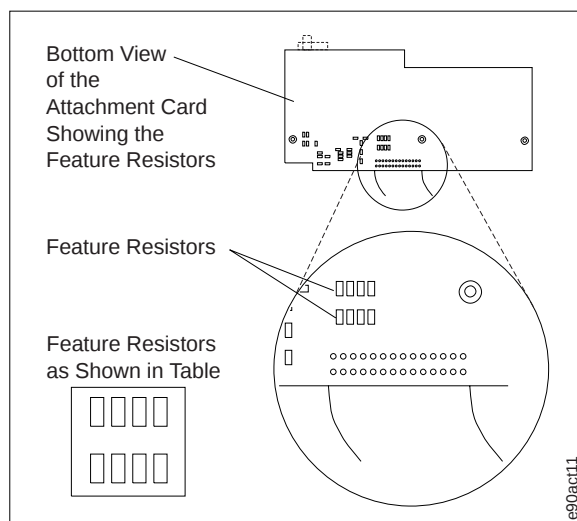
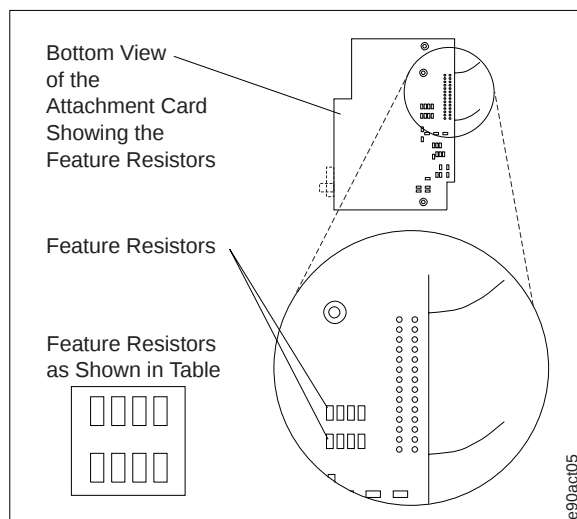
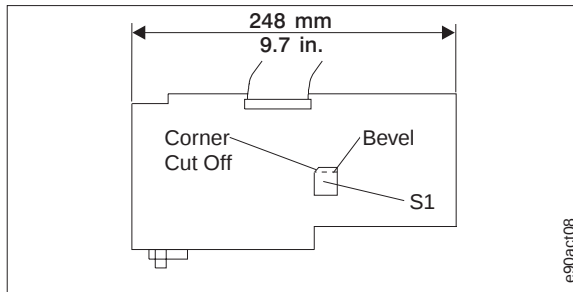

Figure 2. Models 001 and 002, attachment card Feature Resistors [Level 1 (Long) Card]
Figure 3. Models 001 and 002, attachment card Feature Resistors [Level 2 (Short) Card]
Figure 4. Models 001 and 002, Placement of S1 Microcode Module - Long Card. The length of this attachment card is approximately 248 mm (9.7 in.).
Figure 2 and Figure 3 on page 52 show you how to use the feature resistors to identify the attachment card (Models 001, 002). Use the figure that matches your attachment card.
Figure 4 on page 53 shows the location and orientation of the attachment card microcode module (S1) on the Level 1 (long) attachment card.
Use Figure 2 on page 51, Figure 4, and Figure 7 on page 55 to verify that the:
- S1 module is installed in the correct orientation. The dotted line depicted on the S1 module in Figure 3 on page 52 represents the orientation of the beveled edge.